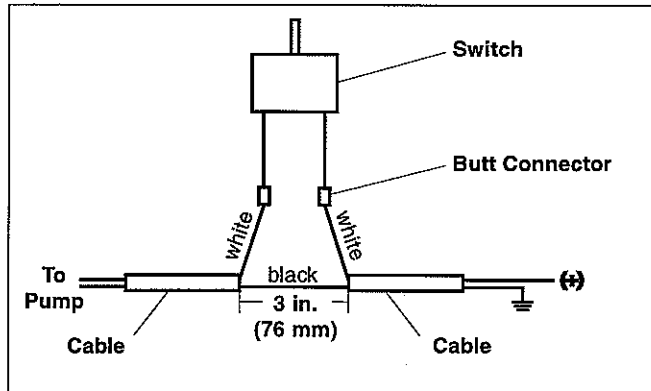

figure 49
4. Install electric controls. Refer to figure 49.